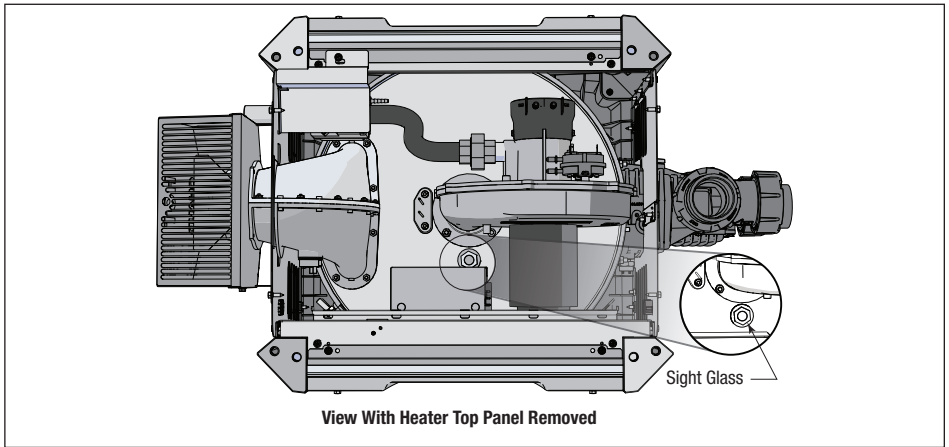

Figure 26. Remove Heater Top to View Sight Glass
- Visually check the main burner flame. Remove the top of the heater to inspect the sight glass. See *Figure 26*.